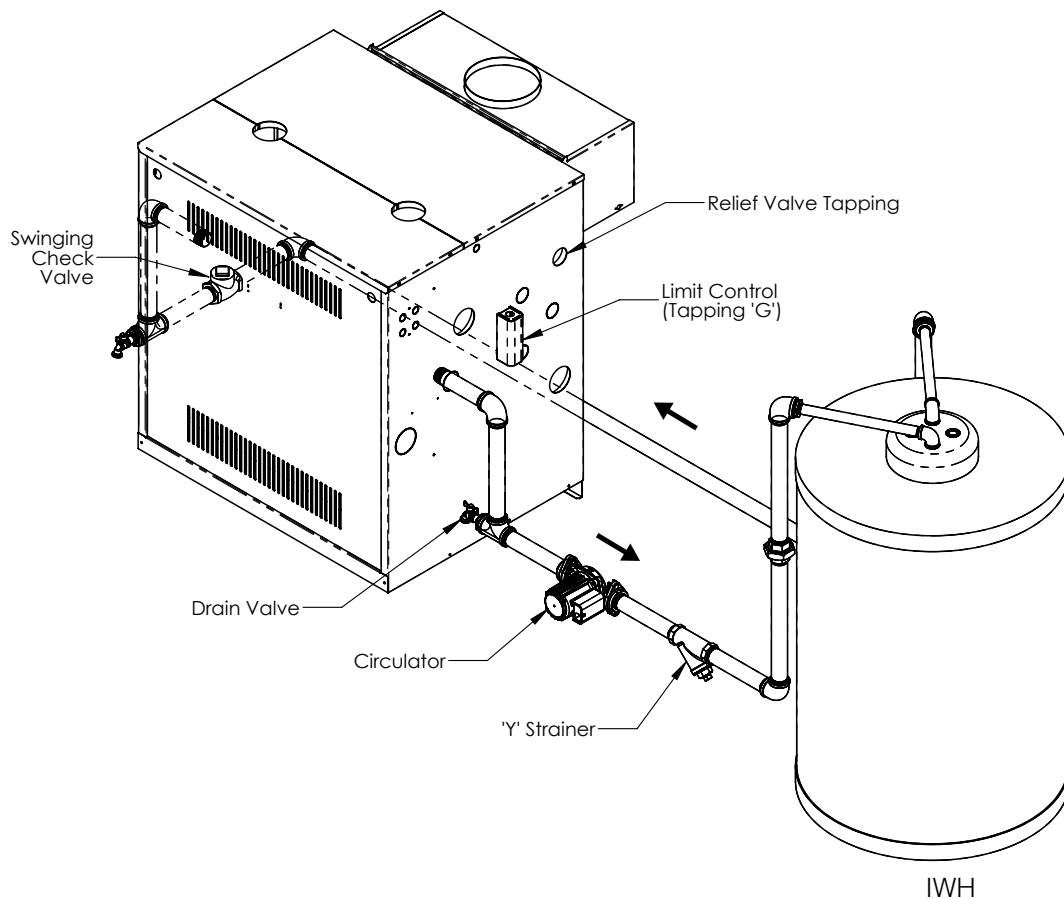

Figure B-1: Indirect Water Heater (IWH) Piping
1. Circulator - Mount circulator as shown in Figure B-1. Circulator should be located as low and as close to boiler as practical. Do not install valves, or other devices having a significant pressure drop, between boiler and circulator inlet. All piping between boiler and circulator inlet should be 1-1/4 in., regardless of piping size required in rest of the system.